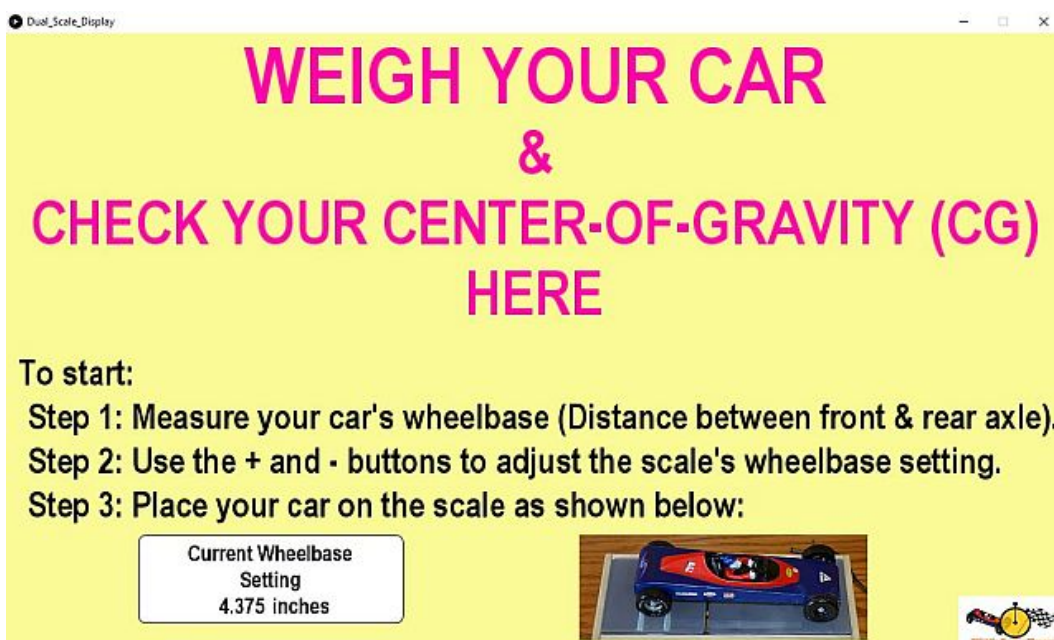

Figure 2. Display Introduction Screen
5. Click on OK to select the COM port. The display introduction screen is displayed as shown in Figure 2.
The Introduction Display (Figure 2) provides a kid friendly invitation/introduction to using the Pinewood Derby car scale. It can thus be set up at the check-in table at your pinewood derby race event allowing race participants to weigh their own car and learn about CG. It is assumed a ruler is available to allow them to measure their wheelbase.